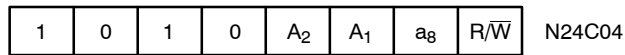

Figure 3. Slave Address Bits
The Master initiates data transfer by creating a START condition on the bus. The Master then broadcasts an 8-bit serial Slave address. For normal Read/Write operations, the first 4 bits of the Slave address are fixed at 1010 (Ah). The next 3 bits are used as programmable address bits when cascading multiple devices and/or as internal address bits. The last bit of the slave address, R/W, specifies whether a Read (1) or Write (0) operation is to be performed. The 3 address space extension bits are assigned as illustrated in Figure 3.  $A_2$  and  $A_1$  must match the state of the external address pins, and  $a_8$  is internal address bit.